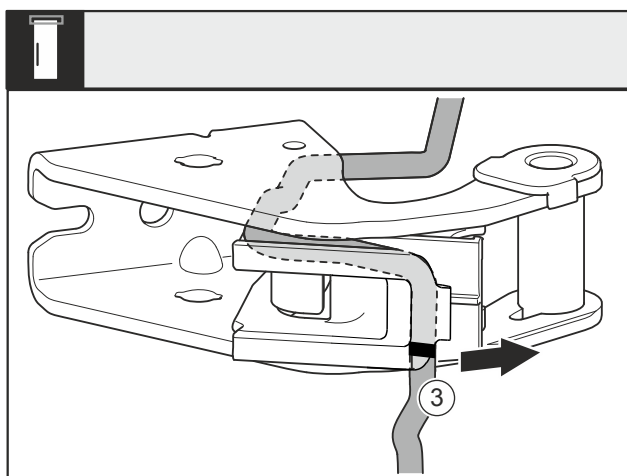

Fig. 27
- Remove the cable with the cable holder Fig. 27 (3) from the swap bearing block.